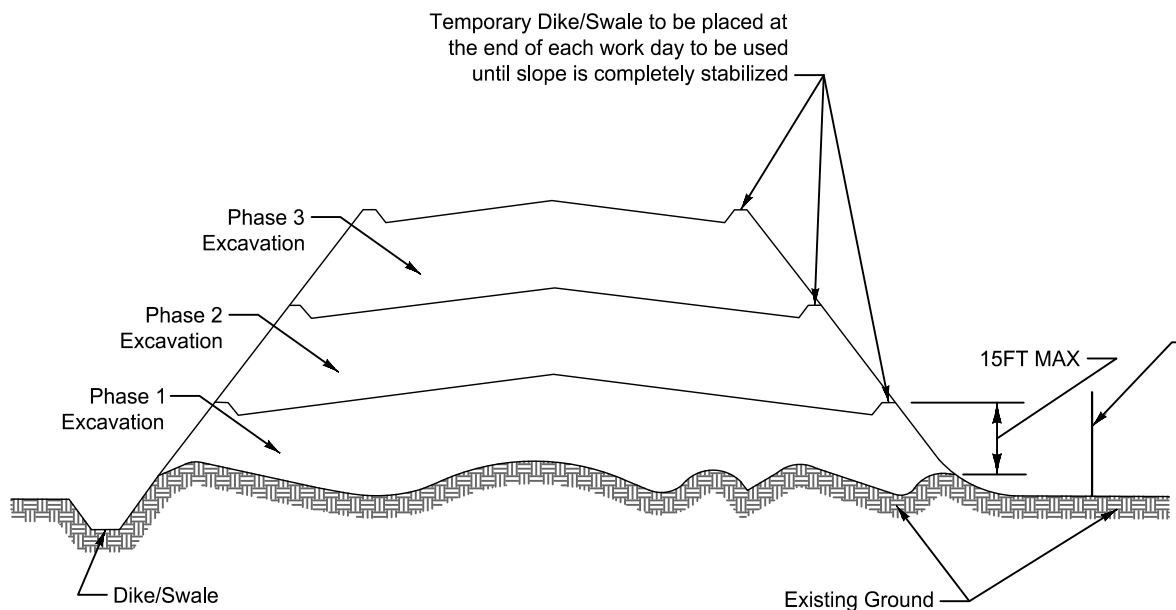

Figure B.2: Incremental Stabilization - Fill
- Construction sequence example (Refer to Figure B.2):